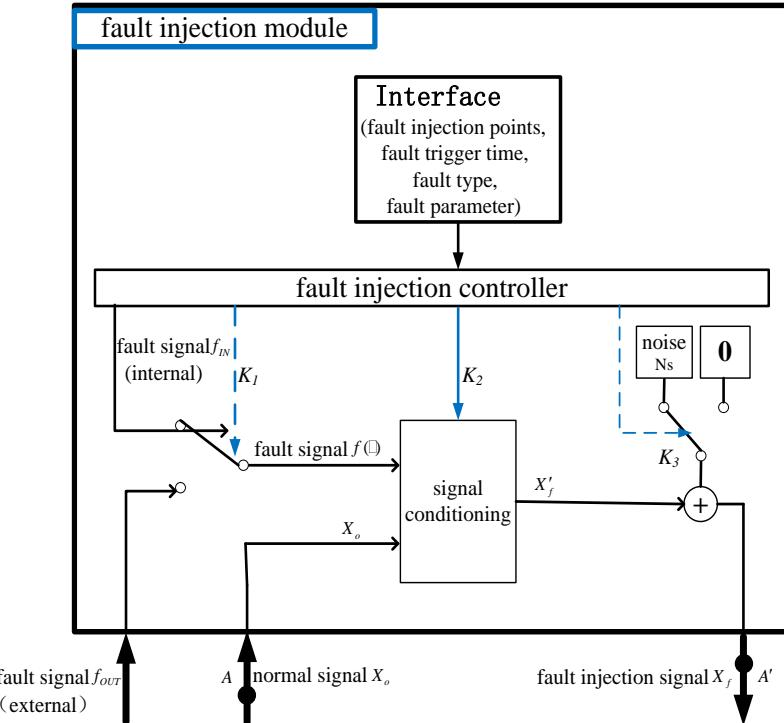

Fig .2 Fault injection method based on signal conditioning
- 1) Fault injection method based on signal conditioning. Based on this method, 20 fault types for four fault injection, which are modules sensors, traction converter, traction motor and traction controller are realized, as shown in Fig. 2.